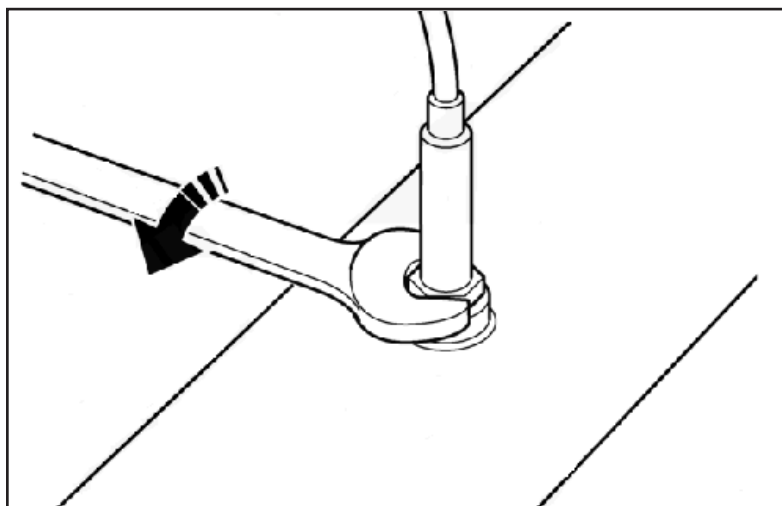

Figure 5 - Typical View of Loosening of NOx Sensor
- 1.7. Loosen the retaining nut, remove the NOx sensor from the exhaust system and discard (Figure 5).